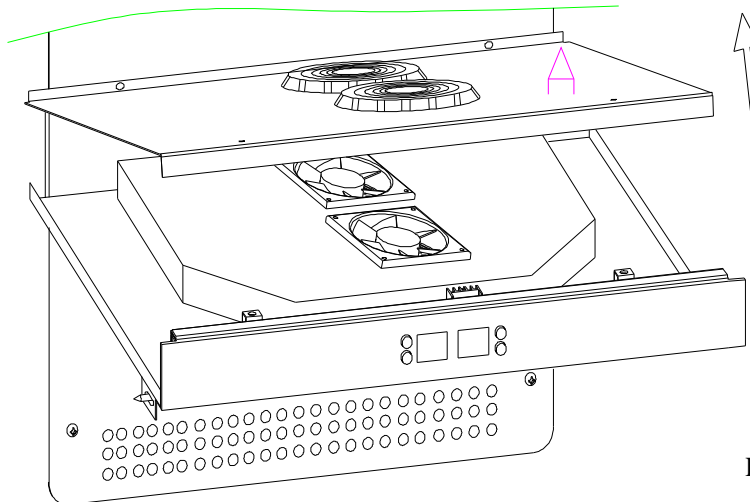
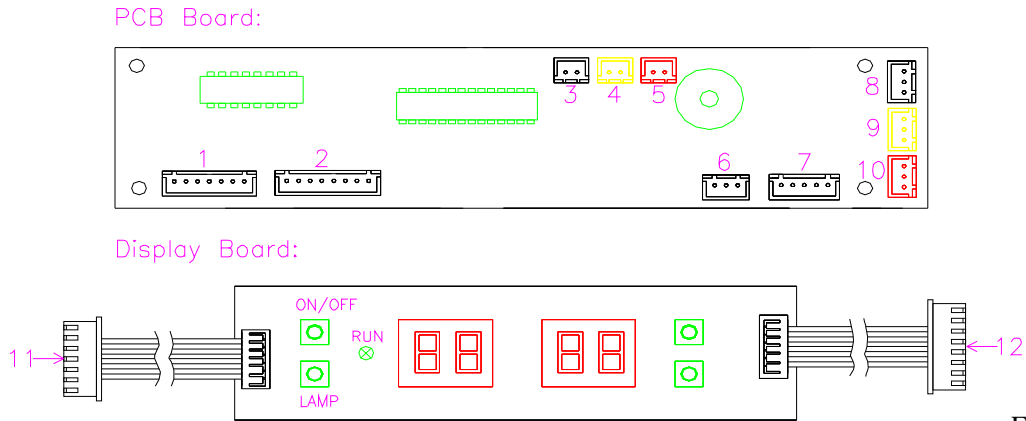

Fig.14
Fig.15
b.Remove the the upper cover of middle air duct board(A)(Fig.14) ;then unplug all connectors from the control panel, The connections of the control boards are as per(Fig.15).